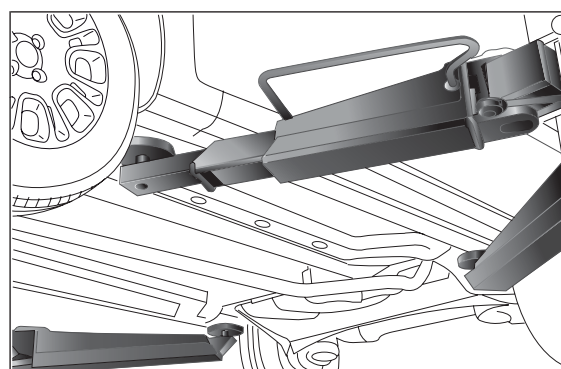

fig. 138
*The vehicle must only be raised laterally by placing the ends of the arms or workshop lift in the areas shown in fig. 138.*